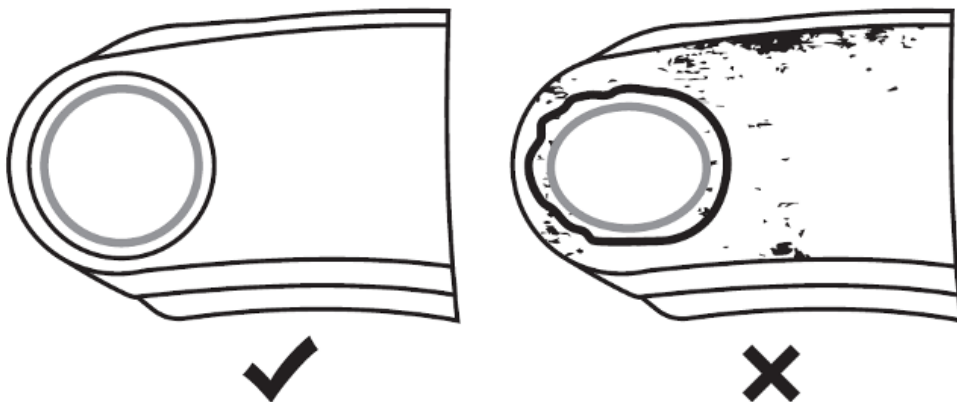

Figure 1.
- Before installing ball joint, ensure all mating surfaces are clear of rust, debris and burrs. Inspect control arm mounting flange for cracks, deformation and/or an out-of-round condition. Do not reuse control arm body if these are found. **See Figure 1.**